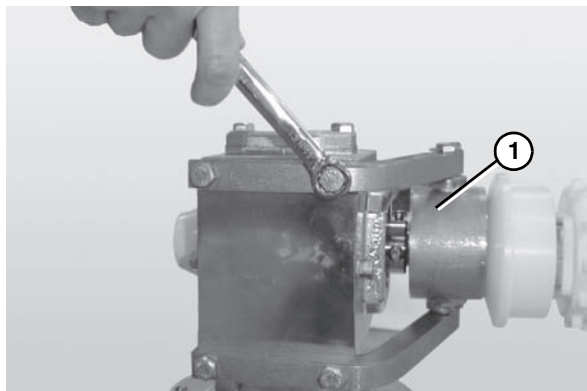

Figure 54
- Unbolt the drive assembly and slide it off the bearing spindle (**Figure 54, item 1**).